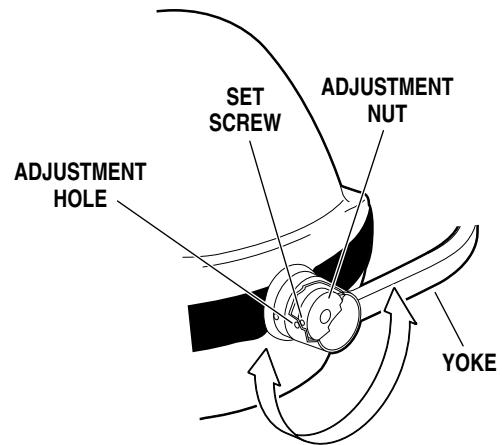

Figure 3-2. Lighthead Pitch Adjustment
1. Locate the adjustment hole in the lighthead yoke. See figure 3-2.